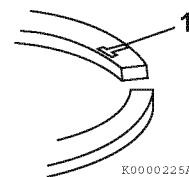

Figure 6-89
4. Lubricate and reinstall the wrist pin (**Figure 6-89, (6)**) through the piston and connecting rod.
5. Reinstall the second circlip (**Figure 6-89, (5)**) and ensure it is securely seated in the groove.